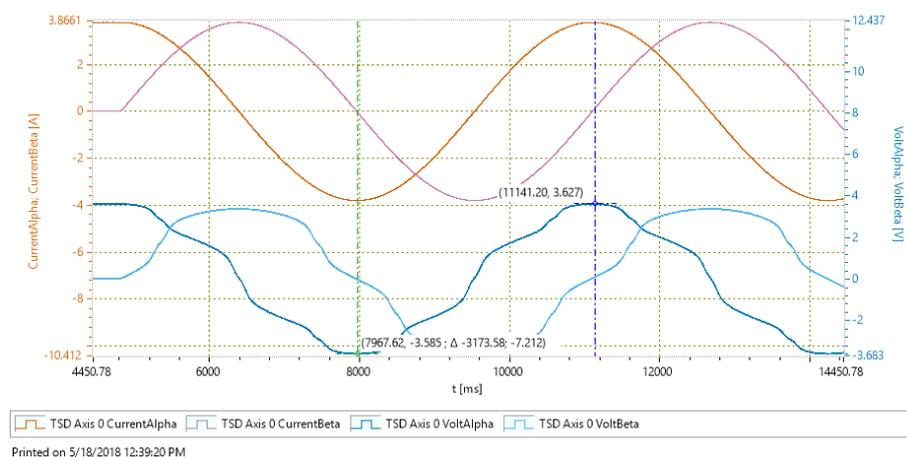

Figure 4: Measurement used to evaluate the resistance.  $R = 3.6V / 3.8A = 0.85\Omega$ .
2. Run the motor with low velocity in synchronous mode and measure the signals for at least one electrical turn. The velocity should be low enough so that the voltage and current are in phase (see Figure 4).
3. Measure the ratio between VoltageAlpha and CurrentAlpha or VoltageBeta and CurrentBeta to determine the resistance (Figure 4). And write the result to register `Parameters.CurrentController.R`.